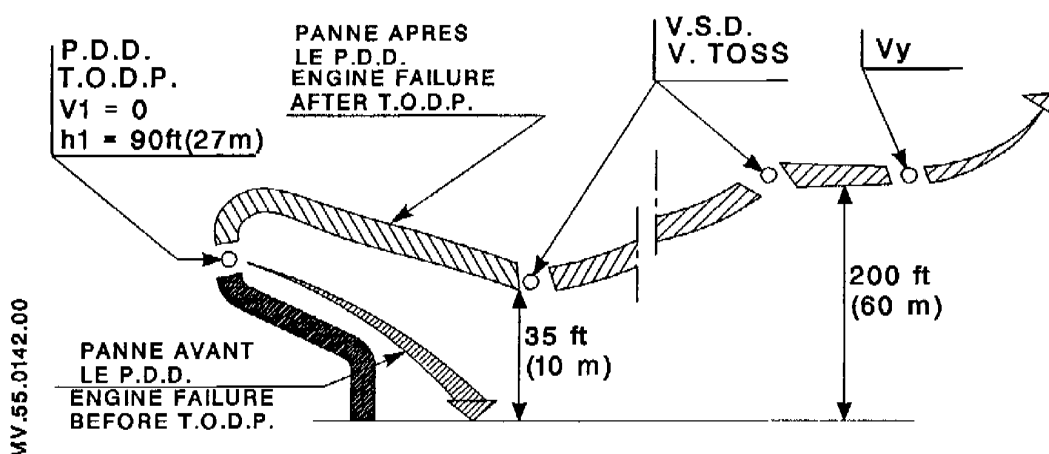

Figure 6
4.1.2 Emergency procedures in the event of an engine failure on takeoff (Figure 6)